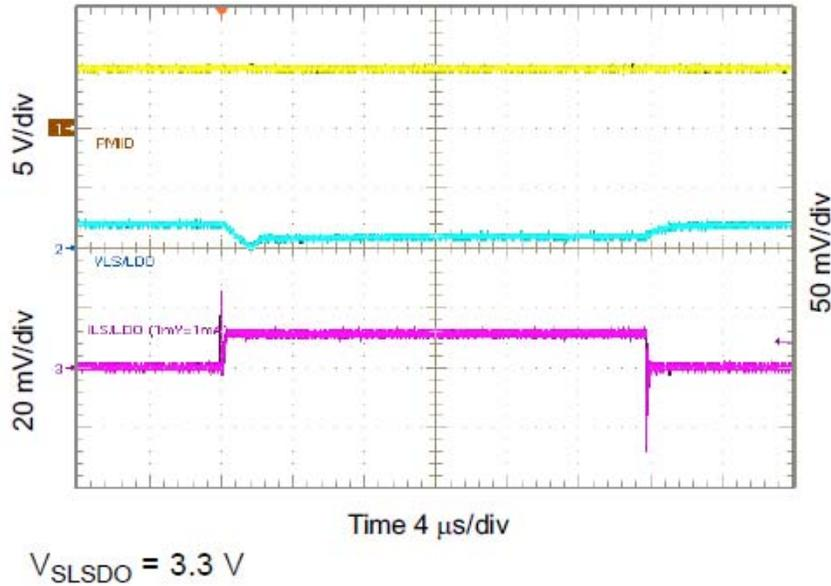

Figure 9. 3.3V VLSLDO Load Transient from 0 to 100mA
- Figure 9 shows the load transient of V_{LSLDO} from 0 to 100 mA. $V_{LSLDO} = 3.3\text{V}$.